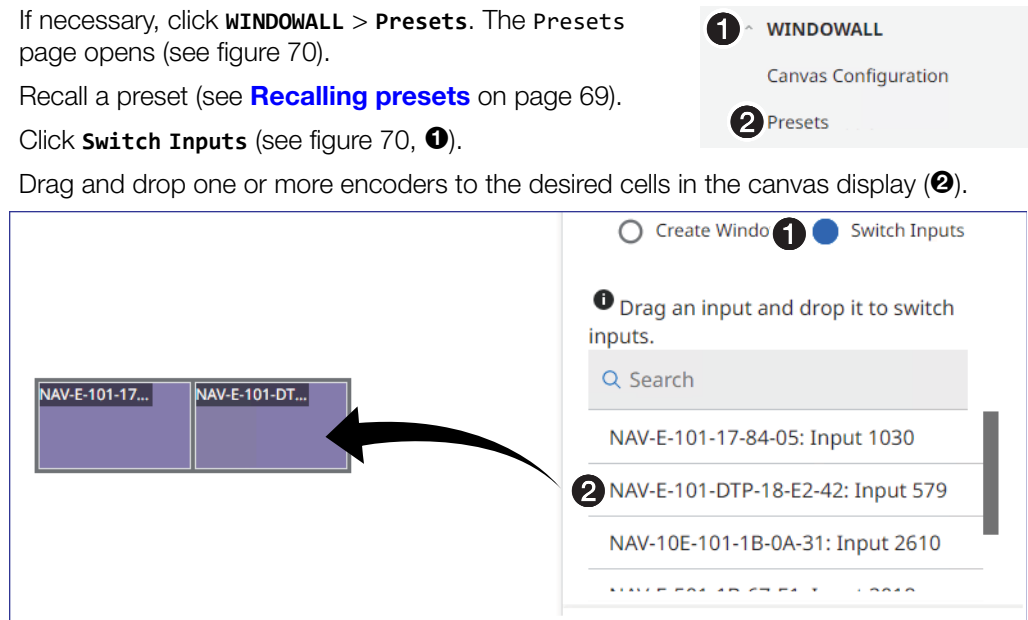

Figure 70. Switching Preset Inputs
2. If necessary, click **WINDOWALL > Presets**. The Presets page opens (see figure 70).
4. Click **Switch Inputs** (see figure 70, ❶).
5. Drag and drop one or more encoders to the desired cells in the canvas display (❷).